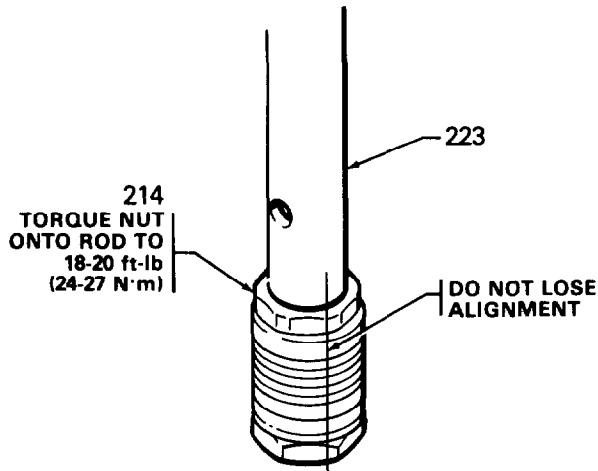

Fig 12
5. Place ball (203) on piston valve (224). Apply *one drop* of thread locking compound on threads of valve. Then hand tighten the valve assembly into the piston rod just until the nut meets the face of the rod. See Fig 12.
7. Without changing the tightness of the nut against the packings, tighten the nut (214) into the piston rod to 18 to 20 ft-lbs (24 to 27 N·m). If the pen mark on the packings loses alignment, back the nut off and try again.